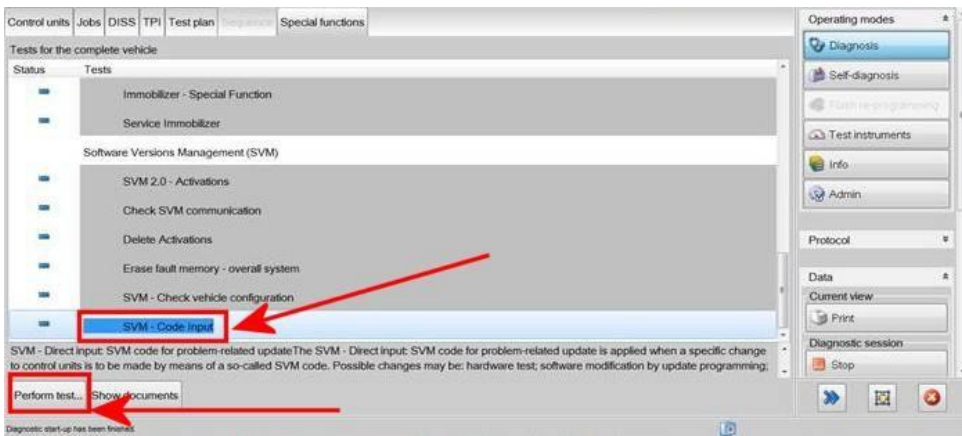

Figure 1
- Because of the highest transmission stability we recommend the use of the diagnosis interface VAS6154 (WiFi diagnostic tool) only in the USB operation or the cable-connected VAS5055 for the reprogramming (updating) of control units. If these units are not available, the diagnosis interface VAS5054 (A) can also be used in USB mode
- Within the Special functions tab select 'SVM – Code Input' then select Perform test (Figure 1)